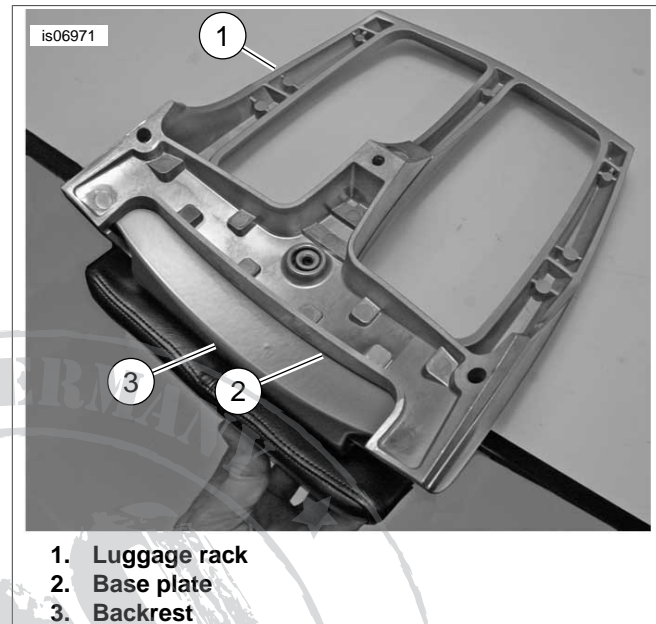
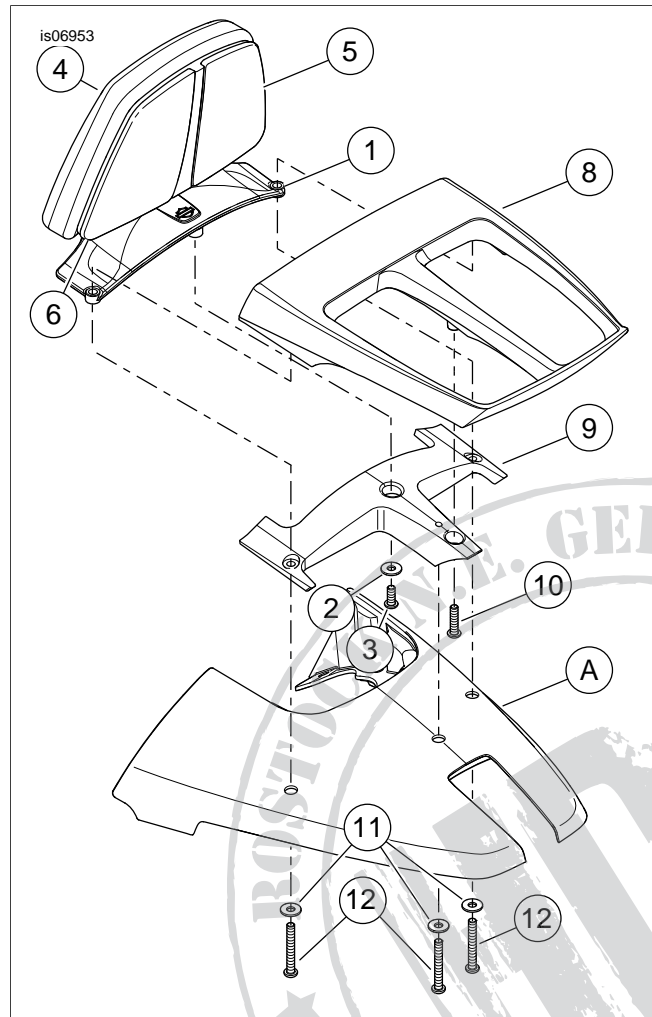

Figure 4. Luggage Rack and Backrest Installation
Figure 5. Service Parts: VRSCDX Luggage Rack and Upright
See Figure 5 and Table 1.
3. See Figure 5. To align the components, start the forward two screws (12) through the base plate and luggage rack just enough for the screw threads to engage.
4. Install screw (10) through the base plate and luggage rack. Tighten screw to 9 Nm (80 **in-lbs**).
5. Remove two screws (12).
7. Install three screws (12) and washers (11) as follows:
10 and 12, Figure 5) and use Loctite 243 - blue for re-installation.
2. See Figure 4. Orient the backrest (3) so that the outer mounting holes of the backrest align with the mounting holes of the luggage rack (1).
3. Install the base plate (2) over the backrest and luggage rack.
4. See Figure 5. Start screw (3) and washer (2).
5. To align the components, start the forward two screws (12) through the base plate and luggage rack just enough for the screw threads to engage.
6. Start screw (10) through the base, backrest and luggage rack.
7. Tighten screw (3) to 12 Nm (106 **in-lbs**).
8. Tighten screw (10) to 9 Nm (80 **in-lbs**).
9. Remove two screws (12).
11. Install three screws (12) and washers (11) as follows: